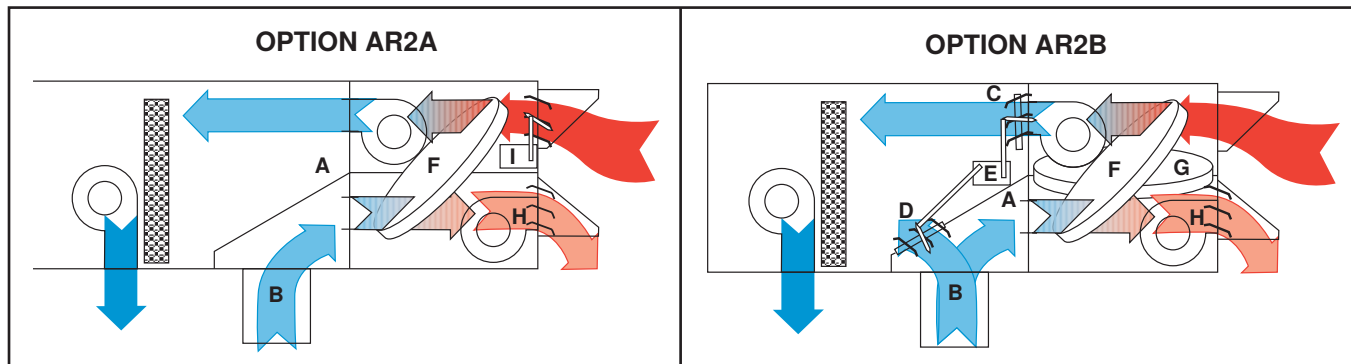

Figure 16. Optional Energy Recovery Module Component Locations
- Optional energy recovery modules must be ordered with the unit—the cabinet is modified to accommodate the module (refer to Figure 16 and Table 28).